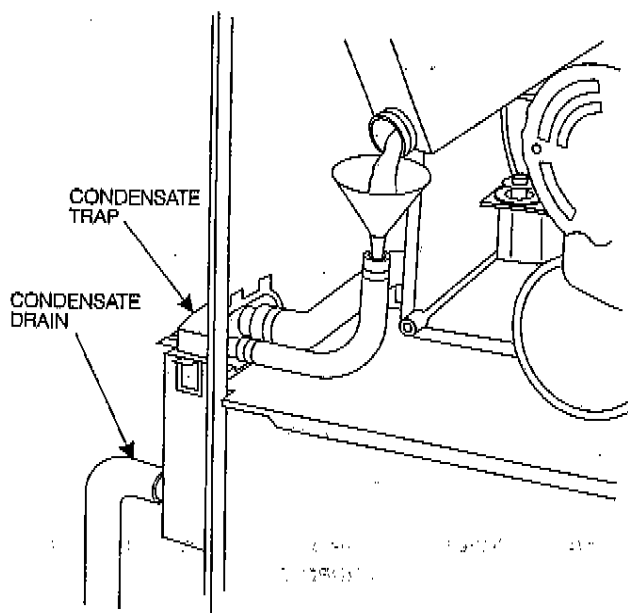

Fig. 44—Filling Condensate Trap
- Insert funnel into tube and pour 1 quart of water into tube. This should overflow trap and flow into an open drain. (See Fig. 44.)